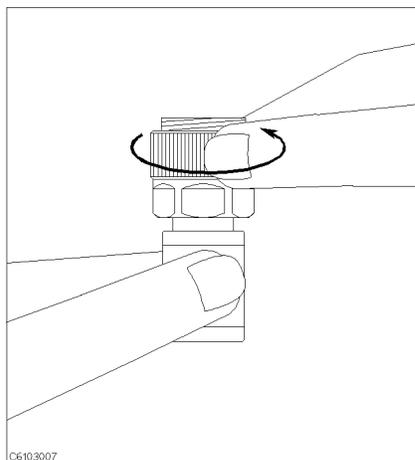

**Figure 5-8.**
8. Connect the 0  $\Omega$  termination on the APC-7® connector as shown in Figure 5-8.